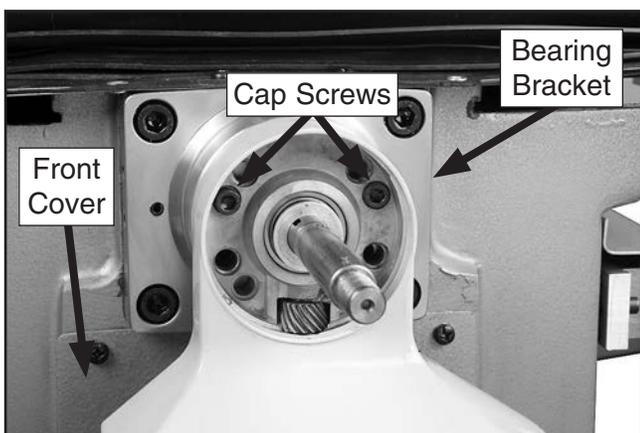

Figure 73. Power feed secured to bearing bracket.
4. Remove the two cap screws that hold power feed unit to the bearing bracket (see **Figure 73**).